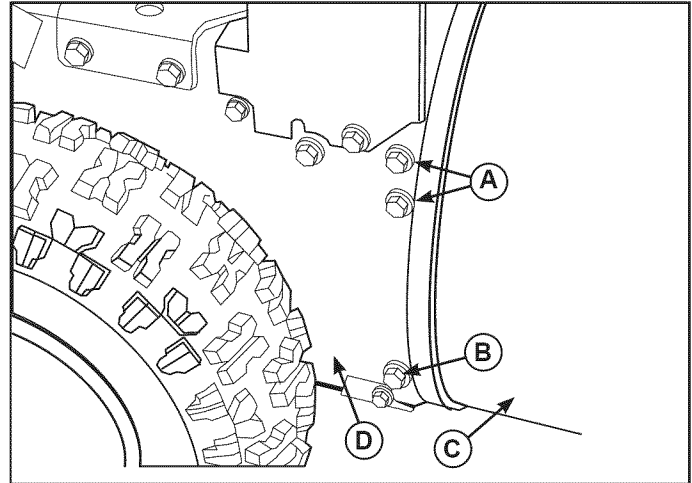

Figure 47. Frame and Axle Housing
10. Remove the upper four capscrews (A, Figure 47) that hold together the auger housing (C) and the frame (D). Loosen the lower two capscrews (B). The auger housing (C) and the frame (D) can now be split apart for removal of the belt.
14. Assemble the auger housing (C, Figure 47) to the frame with the four upper capscrews (A) that were removed in Step 10. Tighten the 2 lower capscrews (B).